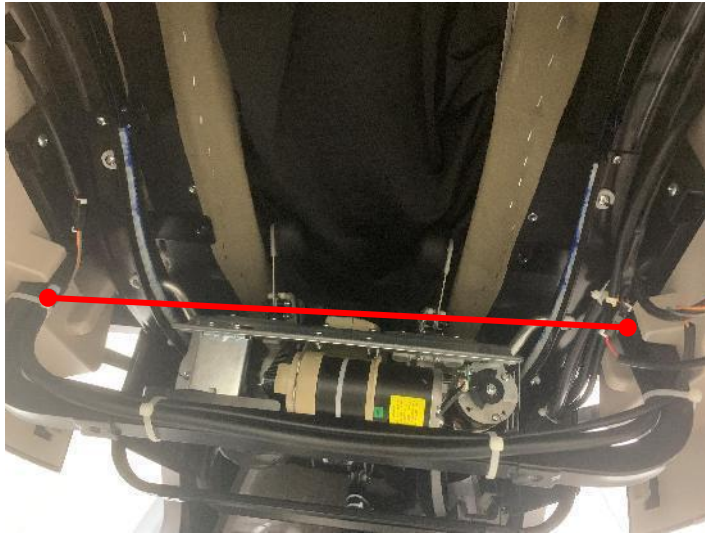

Figure 1
1. The manipulator is pushed to the position of fixing screws at the bottom of the capsule to facilitate disassembly of screws (Figure 1)